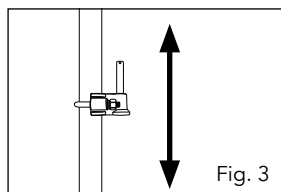

Fig. 3
2. Before you tighten the bolts, push the pipe collar (9) up to the desired working height of the hoist lever arm (Fig. 3). Apply lubricating grease to the hinge pin (5).